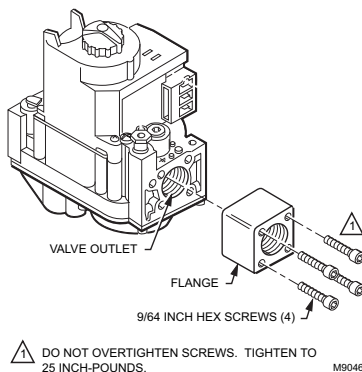

Fig. 1. Fasten flange to valve firmly, but do not overtighten screws.
4. With the O-ring facing the gas control, align the screw holes on the gas control with the holes in the flange. Insert and tighten the screws provided with the flange. See Fig. 1. Tighten the screws to 25 inch-pounds of torque to provide a gas-tight seal.